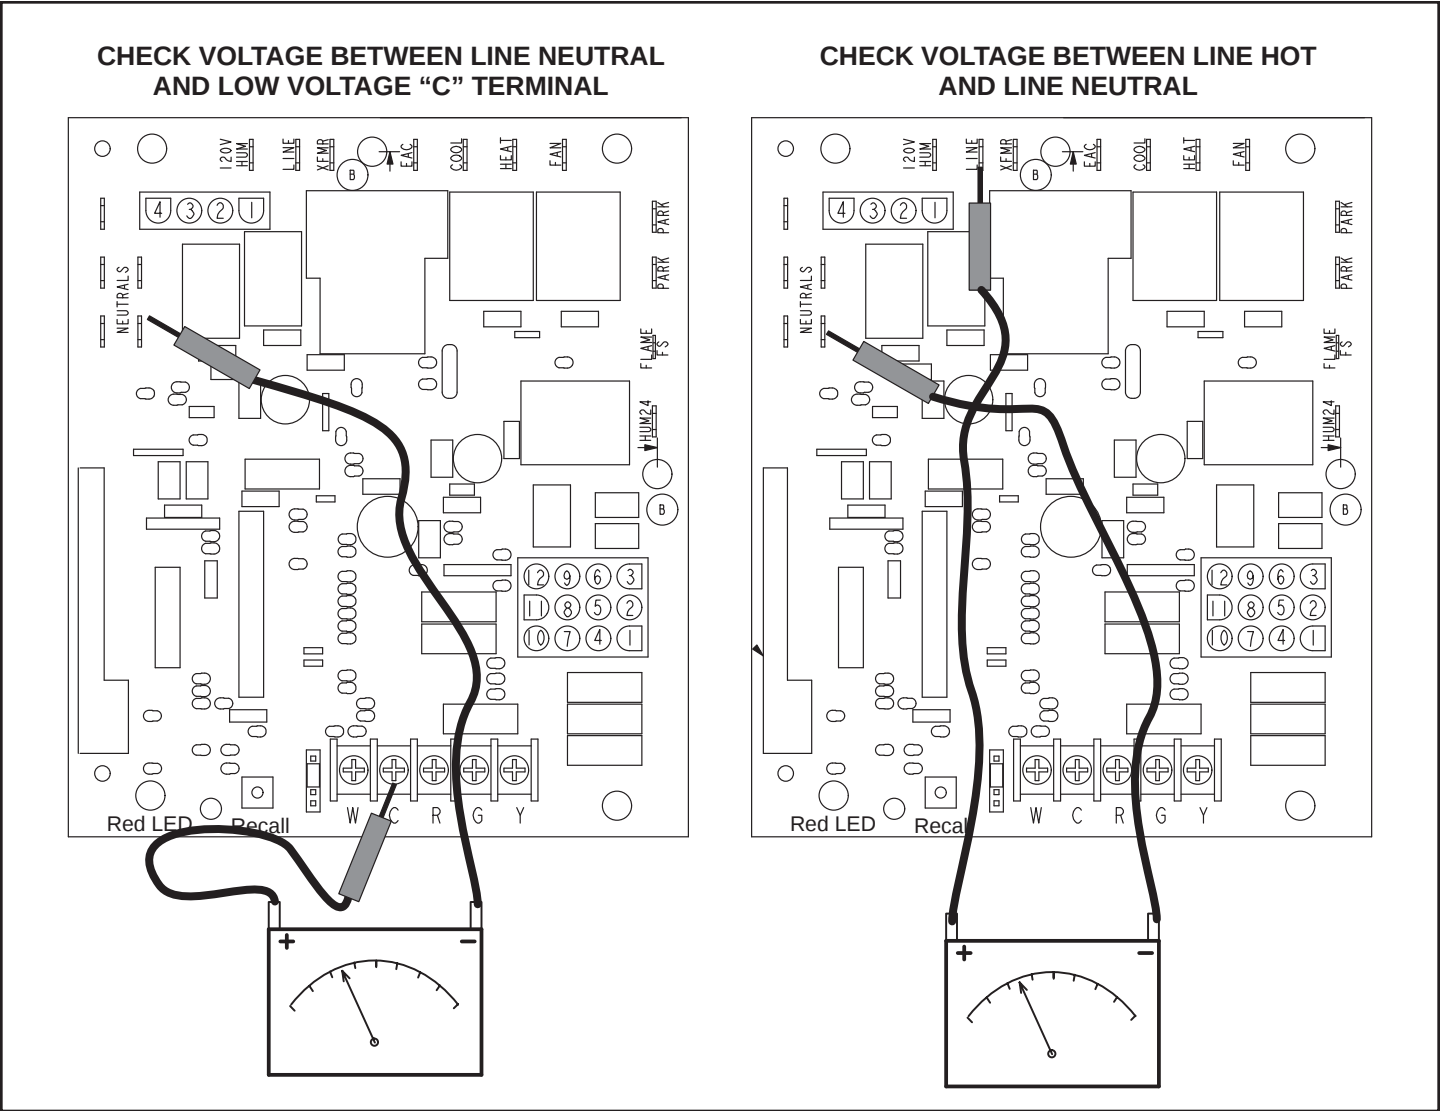

Figure 58.
- 1. Measure the AC voltage between Line Neutral (spade terminals) and “C” terminal (low voltage terminal block) on the integrated control. See Figure 58. A wide variation in the voltage between Line Neutral and “C”
- 2. In addition, measure the AC voltage from Line Hot to Line Neutral (spade terminals) on the integrated control. See Figure 58. This voltage should be in the range of 97 to 132 VAC
Blower speed tap changes are made on the integrated control. See Figure 3 or Figure 58. The heating tap is connected to the "HEAT" terminal and the cooling tap is connected to the "COOL" terminal. On all units the continuous blower tap is connected to the "FAN" terminal. Unused taps must be secured on two dummy terminals labeled "PARK". To change out existing speed tap, turn off power and switch out speed tap with tap connected to "PARK". See blower speed tap table on unit diagram for motor tap colors for each speed.